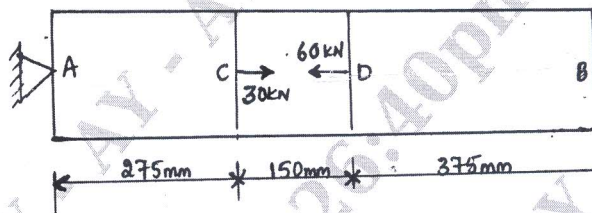

Fig.Q2(c)
- c. A bar of 800 mm length is attached rigidly at A and B as shown in Fig.Q2(c). Forces of 30 kN and 60 kN act as shown on the bar. If $E = 200$ GPa, determine the reactions at the two ends. If the bar diameter is 25 mm, find the stresses and change in length of each portion.